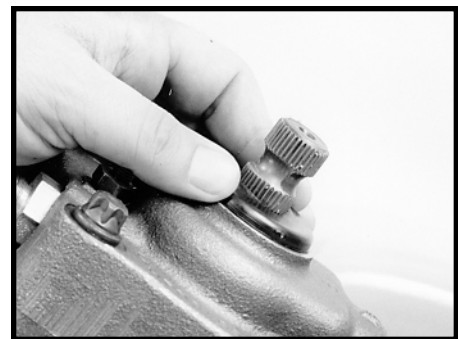

Figure 29
2.10 Add more grease to seal area and assemble seal protector (63) onto worm shaft/input shaft (17), seating it in the relief groove just beyond the input sift serrations, with cup side toward the gear. SEE FIGURE 29.